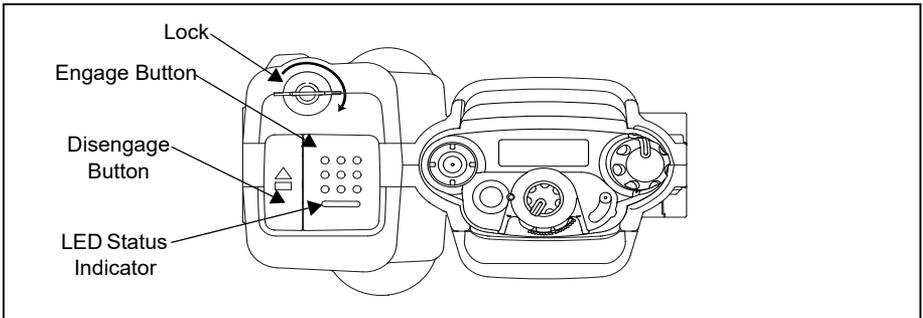

Figure 13: APX VA Mechanisms for Radio Installation/Extraction
3. Push inward on the Engage Button (see Figure 13) until the radio is securely latched into the APX VA pocket.
A light-emitting diode (LED), located within the Engage Button of the APX VA (see Figure 13), indicate charging conditions and audio accessory (microphone) operating modes.
2. Press the purple disengage button (see Figure 13) to release the radio from the APX VA.